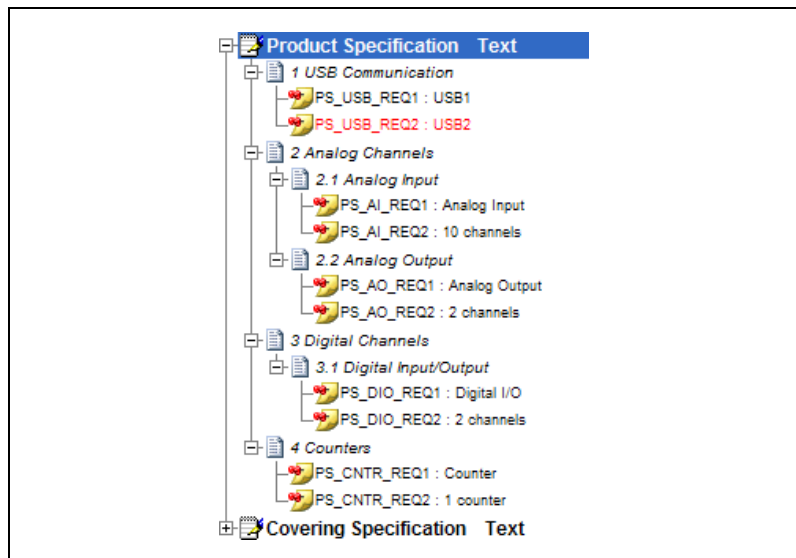

Figure 3-6. Product Specification in Management View
9. Expand the child elements of the **Product Specification** document in the tree view pane of the Management View as shown in Figure 3-6.